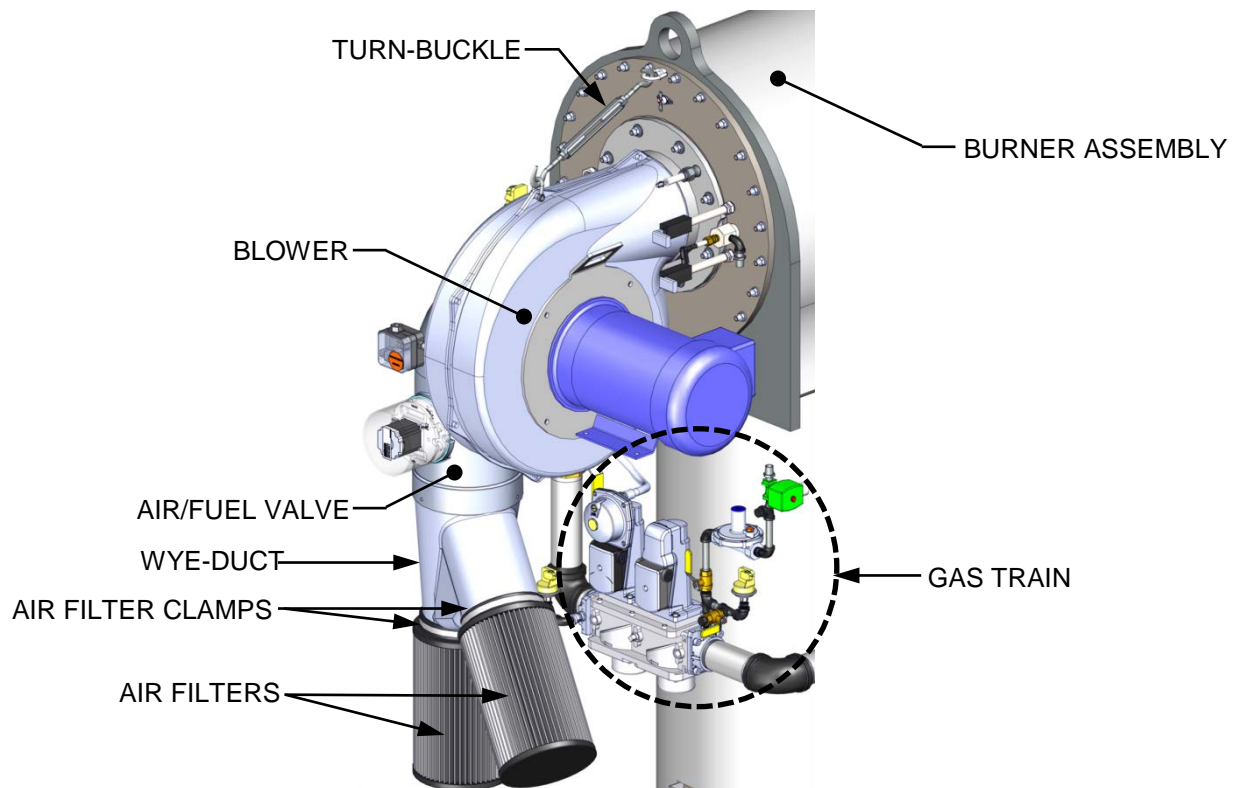

Figure 7-11: Air Filter Location and Removal
The Benchmark boiler is equipped with two (2) air filters (P/N **88014**) which should be cleaned and re-oiled every 12 months, or as needed if combustion air is dirty, and replaced every 24 months. The air filters are attached to a WYE shaped duct connected to the inlet of the air fuel valve as shown in Figure 7-11. To inspect/replace each air filter, proceed as follows:
3. Refer to Figure 7-11 and locate the air filters attached to the WYE shaped duct connected to the air/fuel valve inlet.